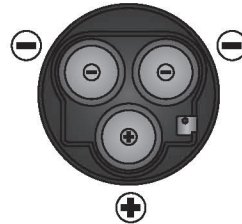

Fig. 3
2. Insert 3 D-Cell Batteries into Flood Light as shown in Fig. 3.